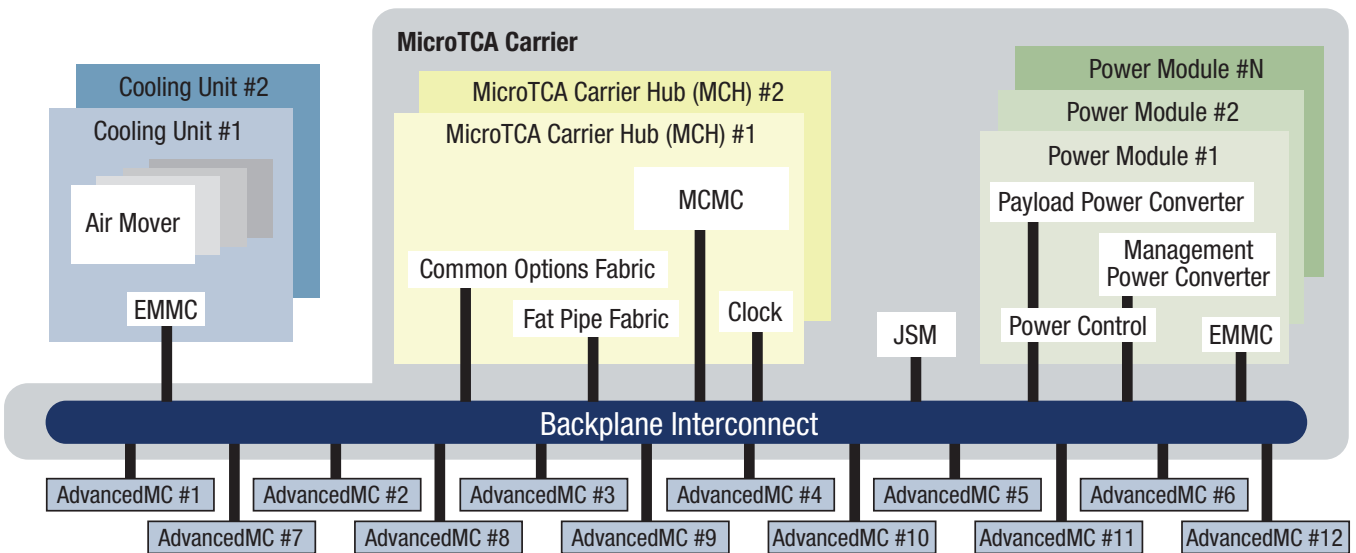

Figure 1
Power Modules (PM), and a MicroTCA chassis that comprises a backplane, connectors, and cooling units. The AdvancedMCs deliver specific applications while the remaining elements serve as general purpose infrastructure. The MCH serves as the logical and physical hub for delivering IPMI management (the *Carrier* in MCH) plus networking of common option and fat pipe fabrics and clocking (the *Hub* in MCH). The PM accepts various AC or DC inputs and provides power conversion, distribution, management control, and safety functions. The MicroTCA chassis houses and cools the AdvancedMCs, MCH, and PM. Figure 1 shows the PICMG MicroTCA RC1.0RC2 block diagram.